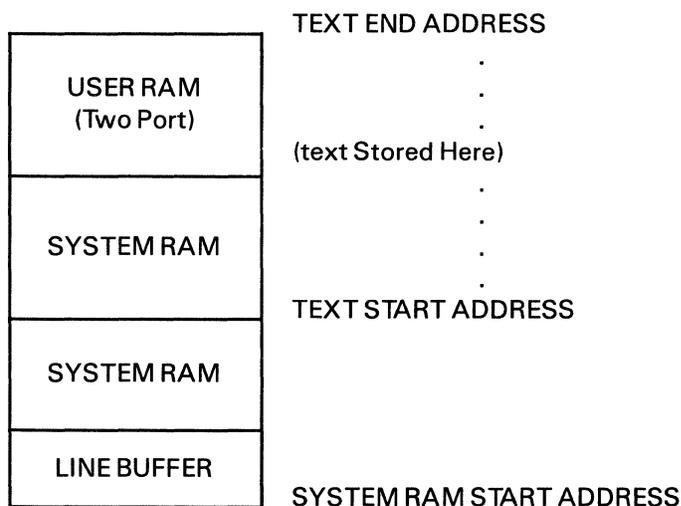

FIGURE 5-1 - EVM TEXT EDITOR MEMORY MAP
Figure 5-1 illustrates the text editor memory map.
- 1) The text editor fills RAM from the user RAM start address to the user RAM end address (see Figure 5-1. The editor will not allow the text to be stored in the system RAM, since this area is needed if the text is to be dumped to either cassette tape (Port 3. or to another computer (Port 2.). When text storage uses RAM to within 64 characters of the RAM end address, the RAM FULL message is issued after any operation that involves storing text to RAM. The user can use the MEMORY command to make best use of the remaining space. The editor will quit storing lines with they are too long to fit in the remaining RAM, but will still allow the user to type lines as usual, continually issuing the RAM FULL message.